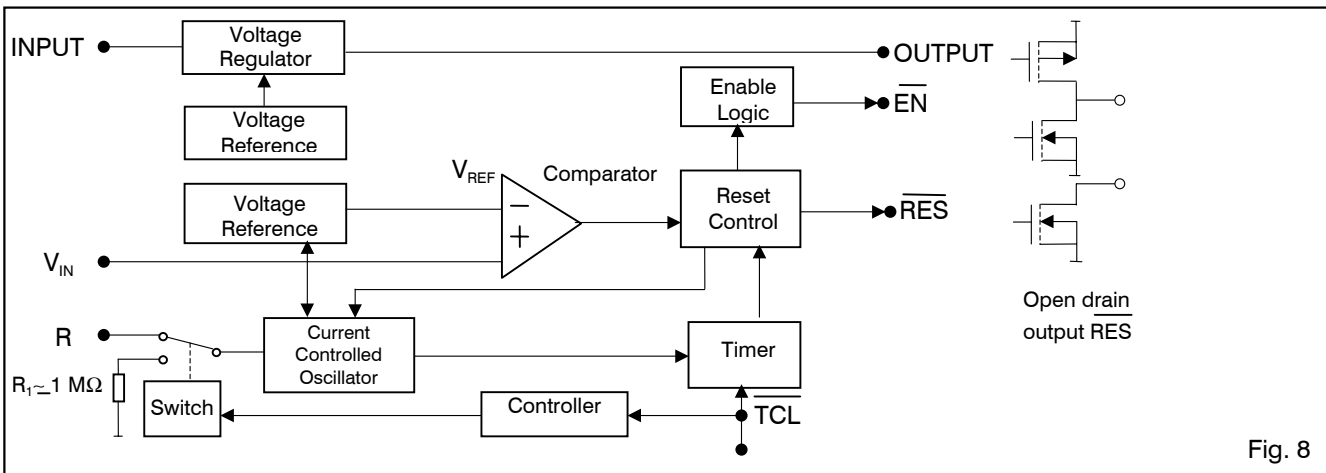

Fig. 8
- 2) Full operation guaranteed. To achieve the load regulation specified in Table 3 a 22 μF capacitor or greater is required on the INPUT, see Fig. 8. The 22 μF must have an effective resistance  $\leq 5 \Omega$  and a resonant frequency above 500 kHz.
6) The comparator and the voltage regulator have separate voltage references (see "Block Diagram" Fig. 8).